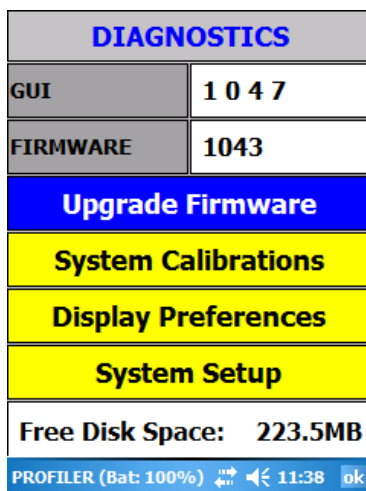

Figure 46: Diagnostics Menu.
1. To perform the System Calibrations, select the **Main > Diagnostics > System Calibrations** (Figure 46).